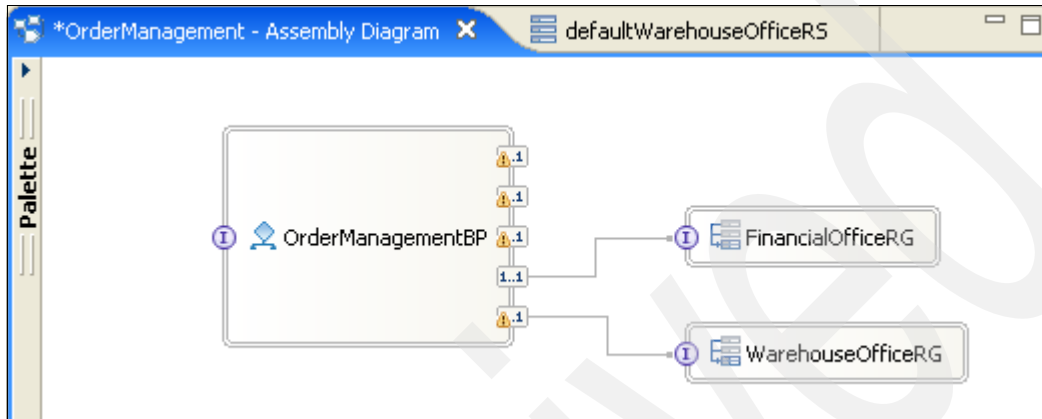

Figure 3-114 OrderManagement assembly diagram with OrderManagementBP and two rule groups
- b. Wire the OrderManagementBP and the WarehouseOfficeRG as shown in Figure 3-114.